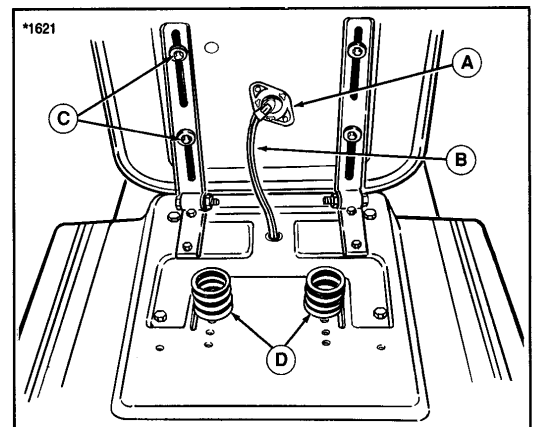

Figure 9. Seat Switch
Check the seat switch (A, figure 9) every fall and spring with the following three tests. Make sure the wiring harness (B) is securely plugged into the switch.
Raise the seat deck. While holding the seat, loosen the four capscrews (C, figure 9) that secure seat to seat deck. Position the seat as desired then tighten the capscrews.
Seat springs (D, figure 9) can be adjusted for operator comfort. Move springs forward for lighter operator and toward the rear for heavier operator.